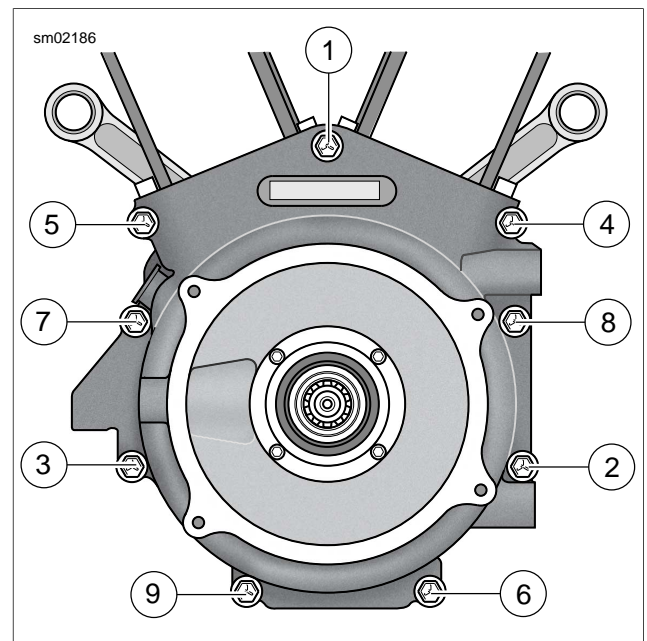

Figure 3-61. Tightening Crankcase Bolts
9. See Figure 3-61. Start the nine crankcase bolts and tighten in the following sequence.